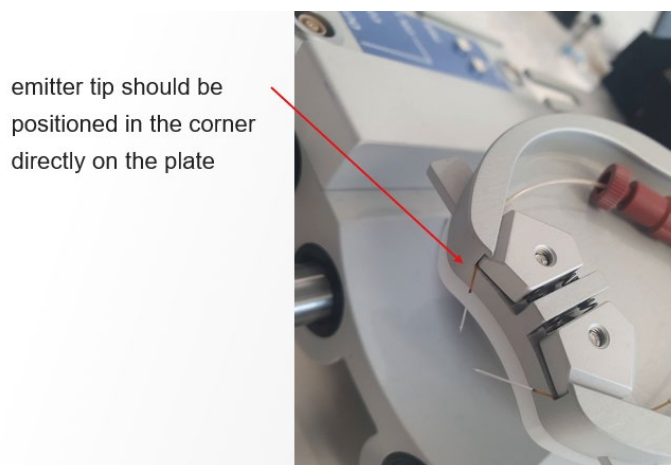

Figure 112: Double Barrel Oven complete with 2 x Emitters and Columns
11. Repeat step 10 for column 2 (see figure 112)